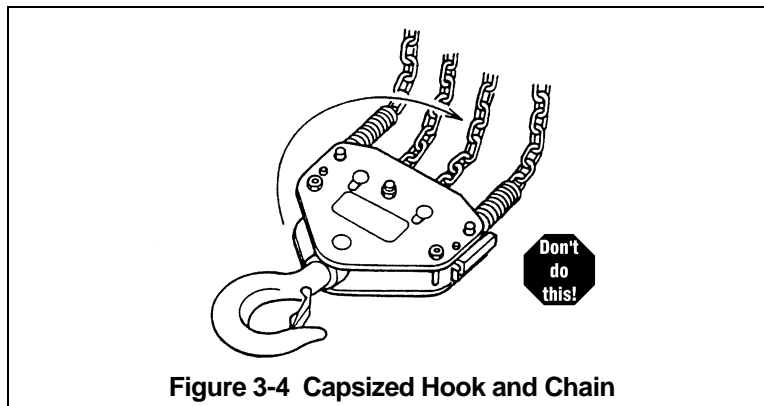

Figure 3-4 Capsized Hook and Chain
- 3.2.6 **⚠ WARNING** Verify that the load chain is not twisted or tangled prior to operating the hoist. Make sure the bottom hook is not capsized. See Figure 3-4. Correct all chain irregularities before conducting the first hoist operation.